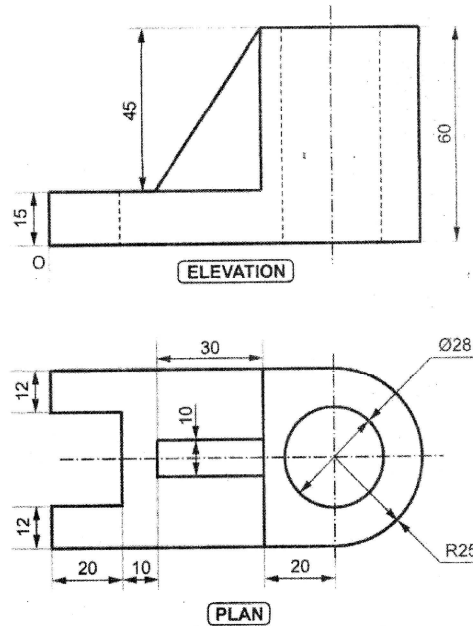

Fig. 5
7. Fig. 5 shows two views of an object. Draw its isometric view and show overall dimensions. [20]